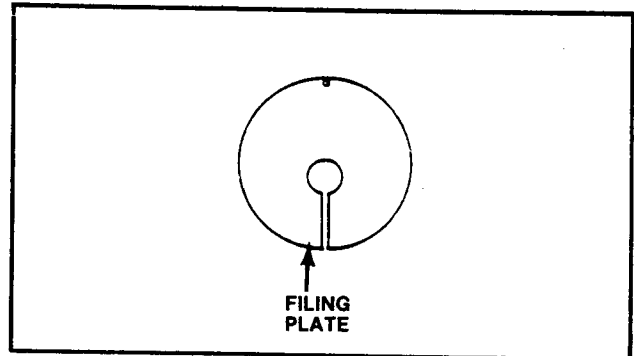

FIG. 47. TABLE CENTER FILING PLATE.
- (2) Lower post to proper work thickness: not over 2 inches (50 mm) for a 1/4-inch (6.4 mm) band, or 4 inches (100 mm) for either 3/8-inch (9.5 mm) and 1/2-inch (12.5 mm) bands. Longer file guides permit filing 7-inch (180 mm) thicknesses with 1/4-inch (6.4 mm) band, or 8-inch (200 mm) thicknesses with 3/8-inch (9.5 mm) and 1/2-inch (12.5 mm) bands.
- (3) Install upper file guide and lock it firmly to post with knurled thumb screws. Insert special filing center plate. Adjust plate to within 1/16-inch (1.5 mm) of band cutting surface. See Figs. 47 & 48.